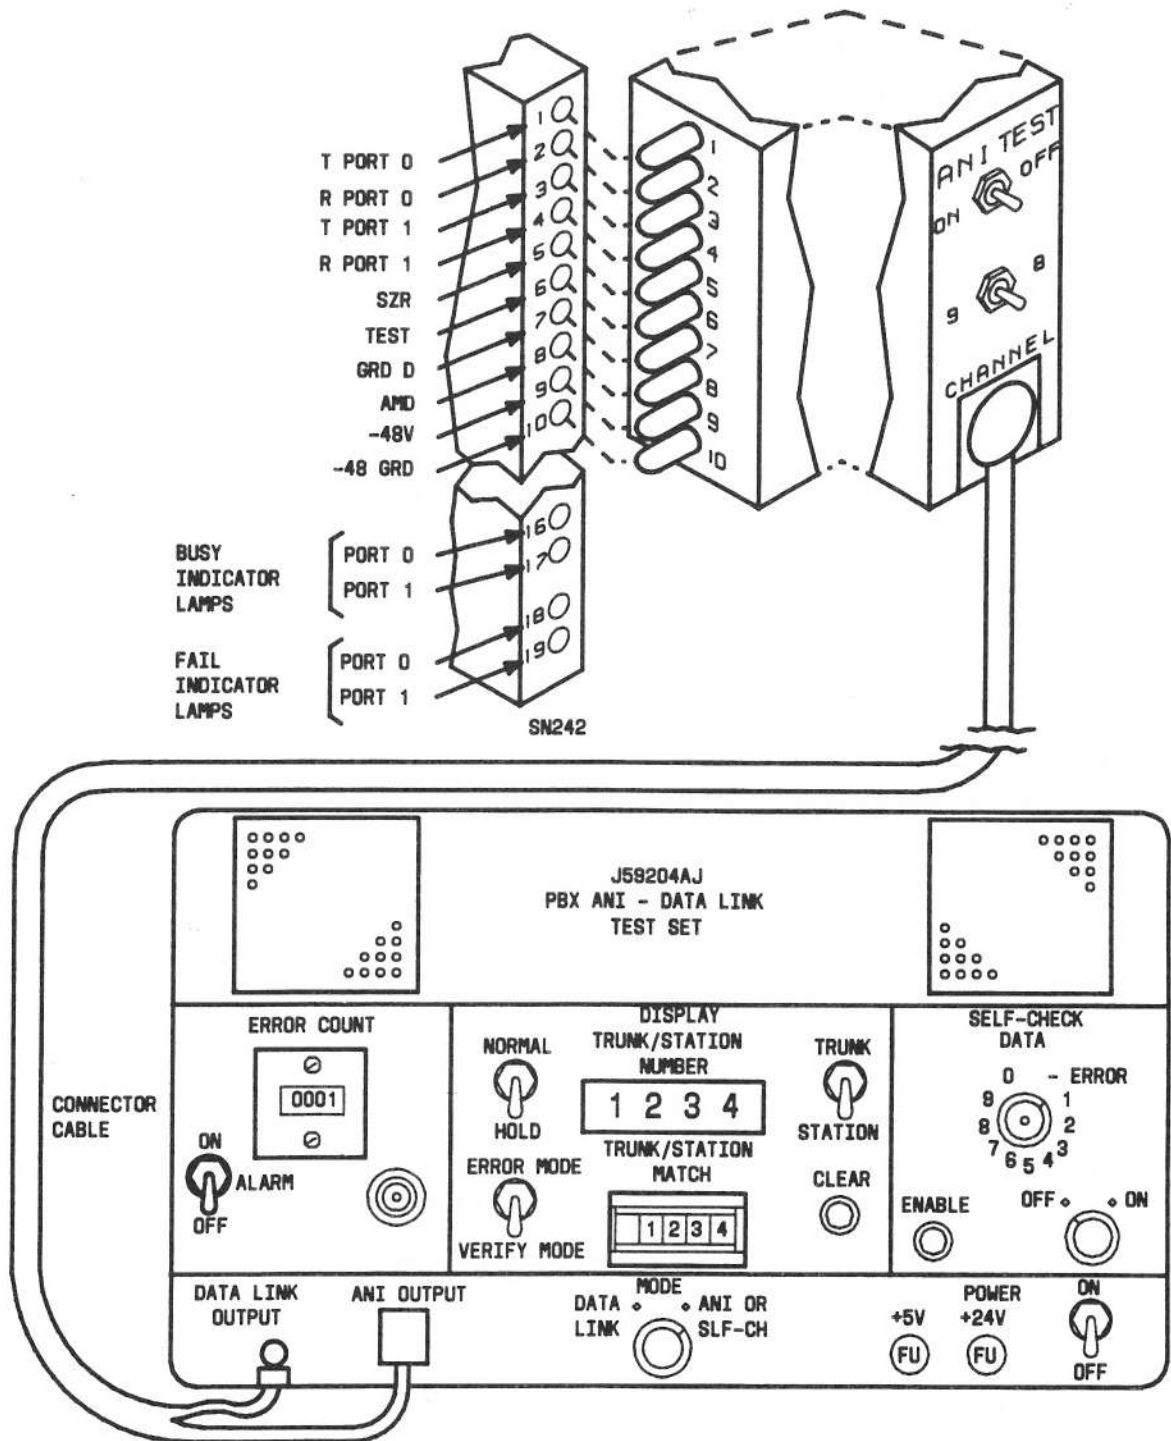

Figure 5. ANI-Data Link Test Set
1. Connect the J59204AJ, L4 connector cable to the J59204AJ ANI-Data Link Test Set. Refer to Figure 5.
2. Plug the connector cable into test points 1 through 10 of the SN244 circuit pack. Refer to Figure 5.